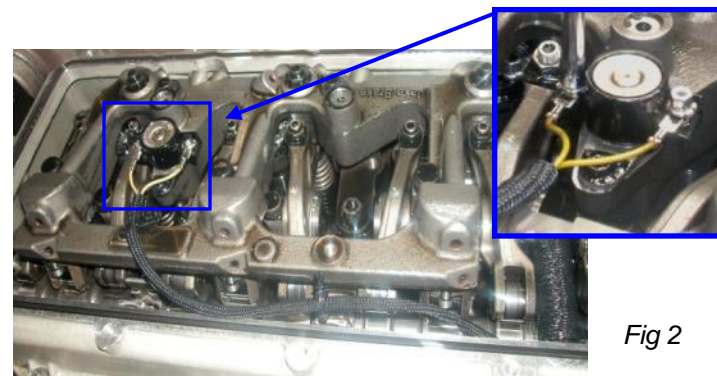

Fig 2
- Disconnect the “Brake Solenoid” harness from the 2 Engine Brake Solenoids, one in each engine brake housing. (See Fig 2) Cut the three cable ties to release the harness, DO NOT PULL OUT THE FIR TREE CLIPS. The Solenoid harness is part of the “Injector Harness”